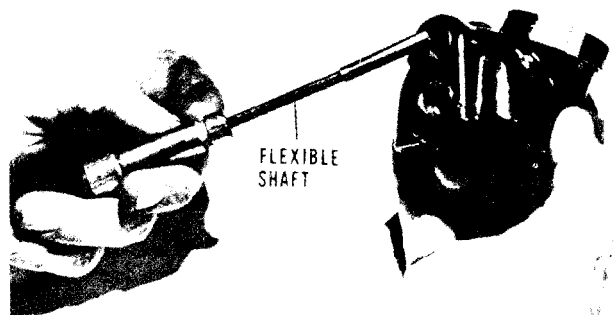

Figure 7. Inserting Tapped End of Flexible Shaft into Drive Roll Housing
- d. Insert left-hand tapped end of flexible shaft into top hole of drive roll housing (Fig. 7) to engage end of worm shaft within housing.